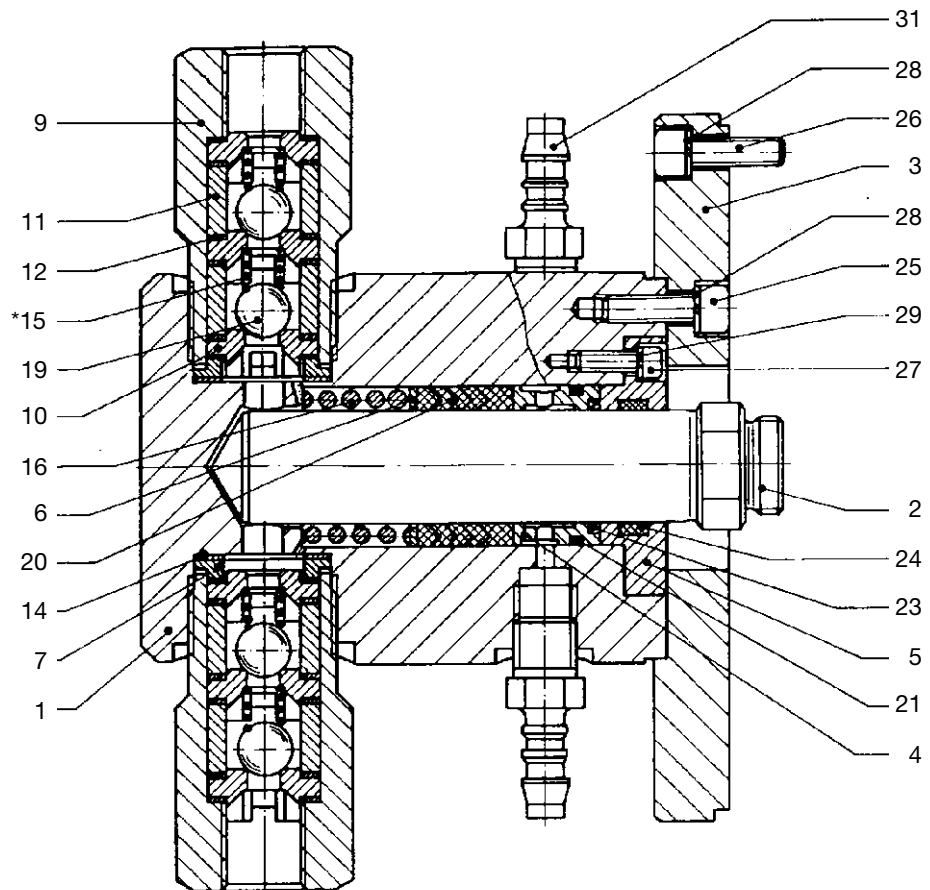

Fig. 9
- (if applicable: remove flushing hoses from hose nozzles (31))
- Slacken the locking nut on the push rod and detach the piston (2) from the push rod (See Fig. 9).